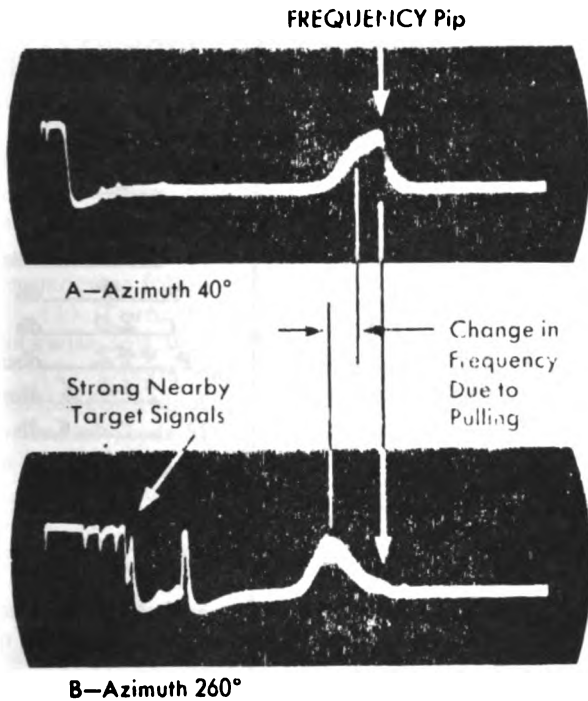

Figure 4-13. Checking Receiver Pulling and AFC Tracking
- (1) Tune the test set to the receiver. (See par. 5b.)
- (2) Turn the PHASE knob clockwise to put the signal near the center of the screen. Broaden the signal by turning the SIGNAL WIDTH knob partly clockwise. Set the FREQUENCY meter so that the pip is on top of the curve.
- (3) Start the radar antenna. If the FM signal moves on the scope (See figure 4-13), transmitter pulling is indicated. It may be caused by faulty housing, bad rotating joints, etc. If the signal remains stationary on the screen, the AFC is tracking all right.